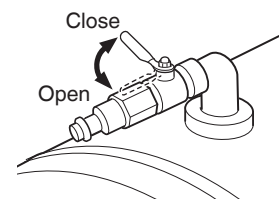

Fig. 6
- Close the air cock. (Fig. 6)